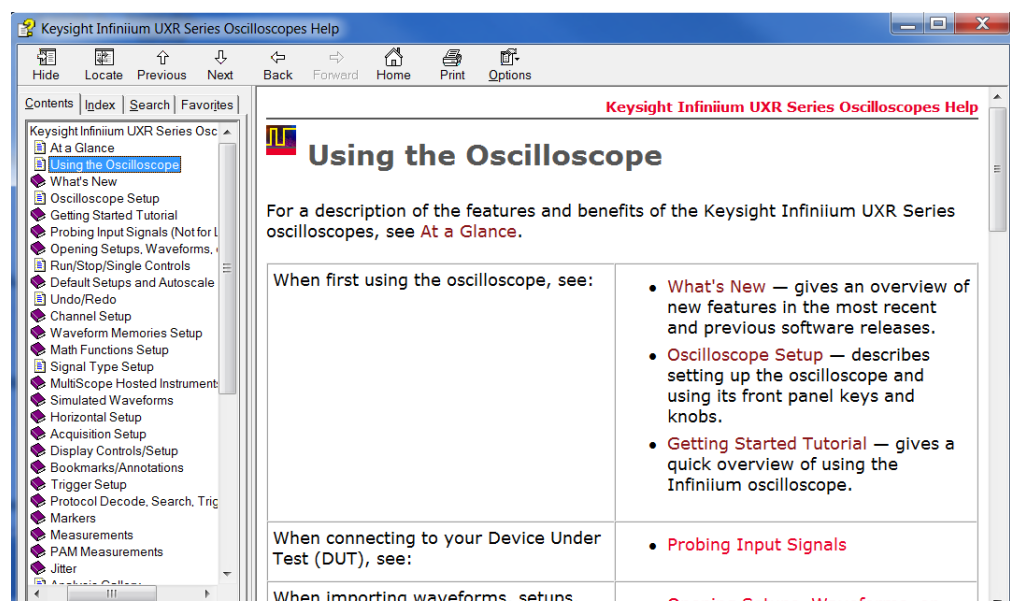

Figure 23 Online Help home page
- Choose **Help > Help Contents...** from the main menu to open the online help home page (**Figure 23**).